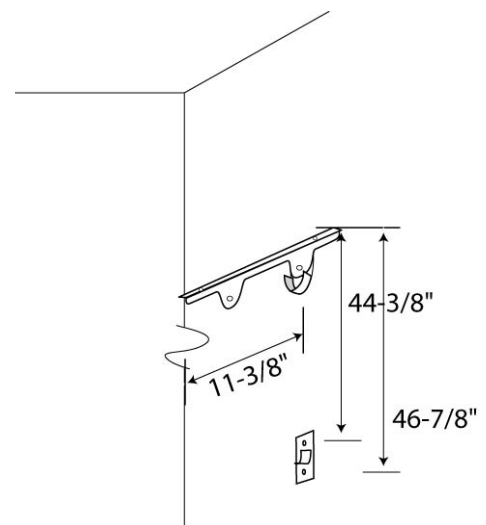

Fig. 5
6. For installation of an independent pole cup in the lower half of a double hang section on this wall, measure down from the top of the bracket to mark the two holes for the pole cup. (See Fig. 5.)
7. Set down the pole cup, and screw in two (2) Easy Anchors in the marked locations for the pole cup. Fasten the pole cup to the wall into the Easy Anchors using two (2) #8 x 1-1/4" screws.